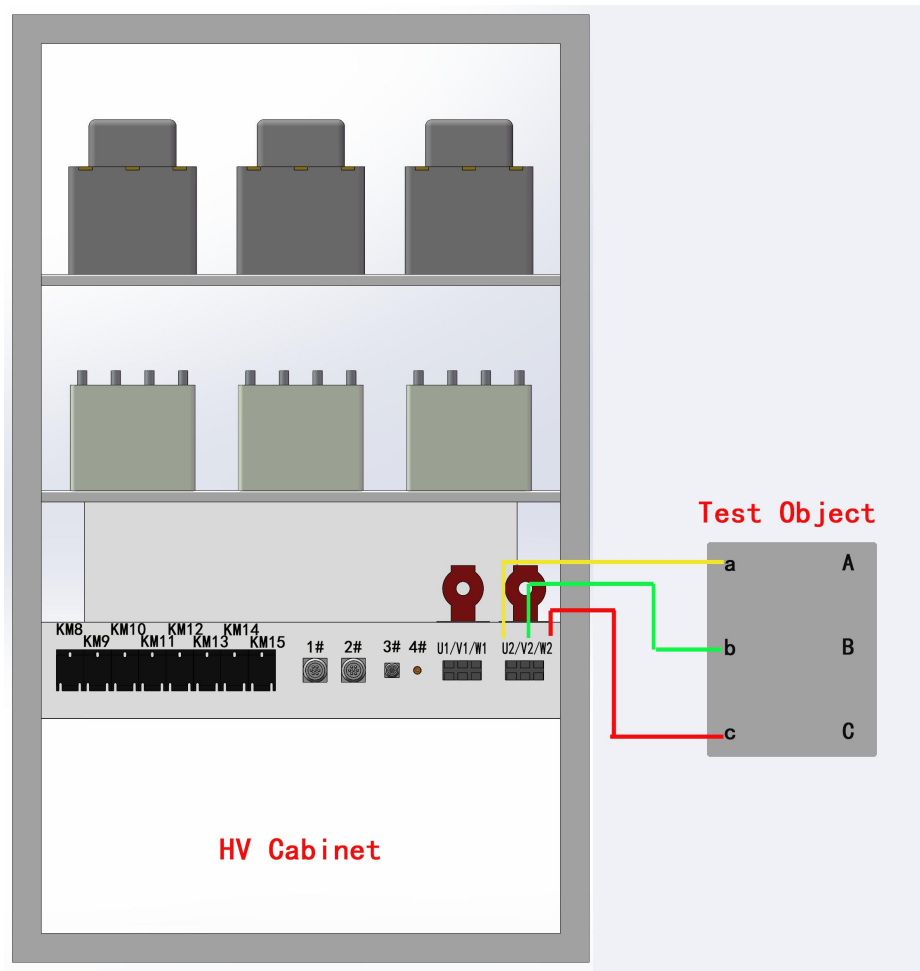

Figure 4 Connection between the high voltage cabinet and the test object
(1) Wiring: Connect the low voltage side (a, b, c) of the tested transformer according to the Figure 4, and open the high voltage side. Note that the phase sequence cannot be wrong.